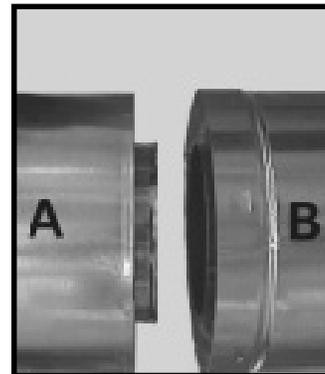

Figure 21
- 2) Insert the outer flue of section "A" into the outer flue of section "B". See Figure 21.